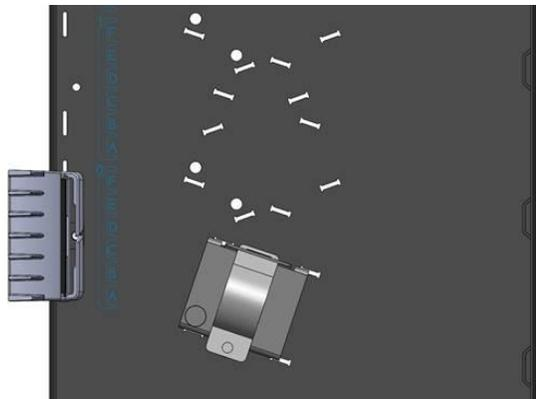
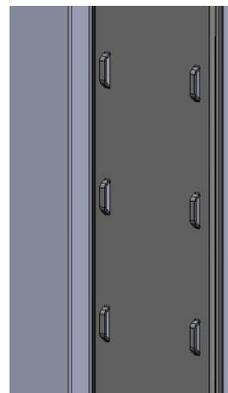

Figure 1
Figure 2
- C. **Rear Trunk Mesh (Part of the Frame)** – The Rear Trunk Mesh is a grid based mounting system for trunk cabling at the rear of the HDF3168 Frame. Each Deck has a specific mounting mesh point to accept Cable Clamp Kits to properly secure fiber trunk cable from either above or below routing. Routing Guides (figure 1) provide proper support and guidance for bend radius compliant installation. Side wall lances (Figure 2) are evenly located for securing of fiber trunk cabling within the frame.